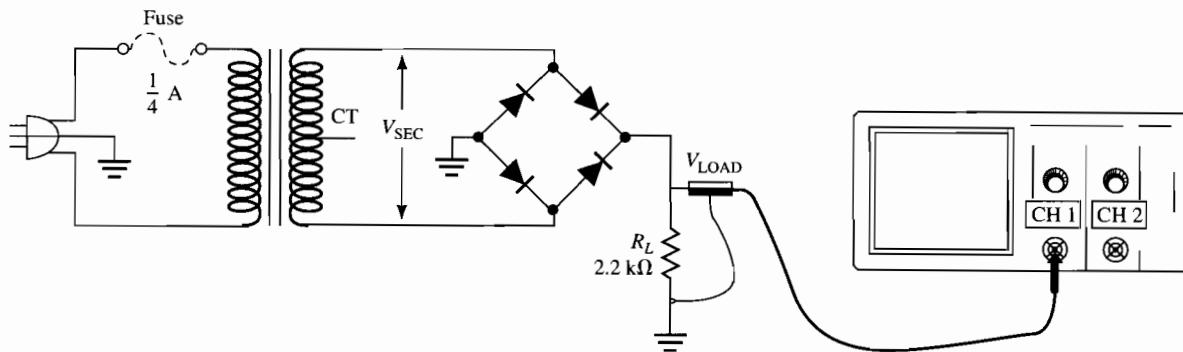

Figure 32–4
- Investigate the effect of the load resistor on the ripple voltage by connecting a second 2.2 k Ω load resistor in parallel with R_L and C_1 in the full-wave circuit in Figure 32–3. Measure the ripple voltage. What can you conclude about the effect of additional load current on the ripple voltage?
- Disconnect power and change the circuit to the bridge rectifier circuit shown in Figure 32–4. Notice that *no* terminal of the transformer secondary is at ground potential. The input voltage to the bridge, V_{SEC} , is not referenced to ground. *The oscilloscope cannot be used to view both the input voltage and the load voltage at the same time.* Check your circuit carefully before applying power. Compute the expected peak output voltage. Then apply power and *use a voltmeter* to measure V_{SEC} (rms). Use the oscilloscope to measure the peak output voltage (V_{LOAD}) without a filter capacitor. Record the data in Table 32–3.